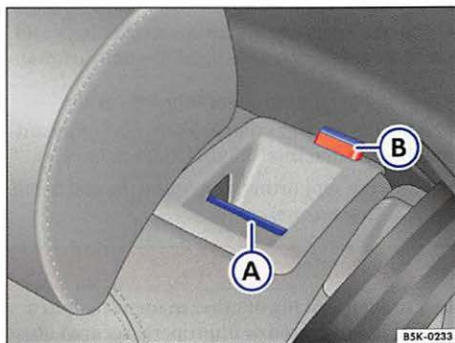

Fig. 86 Rear seat: release button (A); red mark (B).
- Pull the release button ⇒ fig. 86 (A) forward while folding the rear backrest forward.
- The rear backrest is unlocked if the red mark can be seen on the button (B).